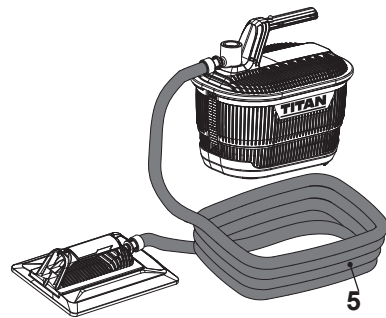

Fig. 6
- The hose (5) is now assembled (Fig. 6).